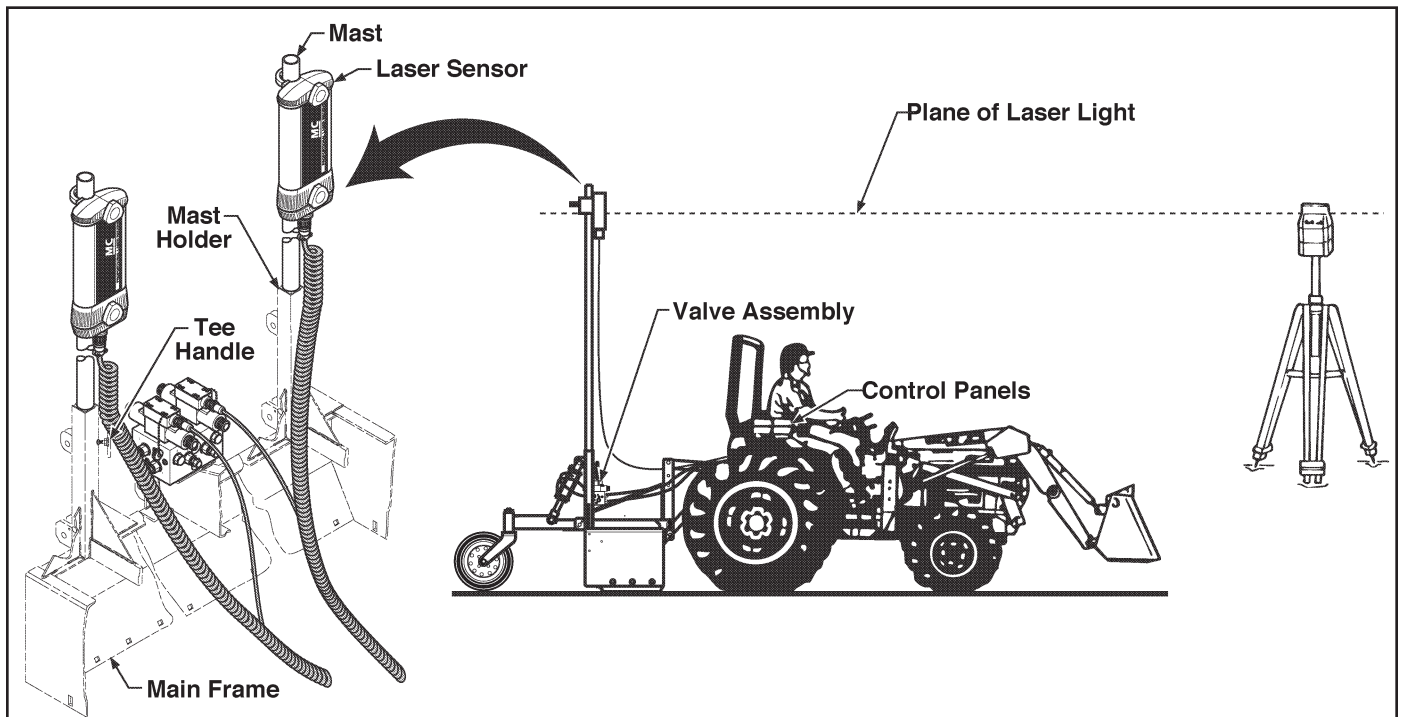

Figure 3. Components of the Automatic Control System
6. Insert the mast poles into the holders on each side of the Laser Grading Box until they rest on the bottom of tube and tighten the tee handle to secure. Clamp one Laser Receiver near the top of each Mast so it is higher than any local obstructions including the tractor cab or fall protection devices. (Refer to Figure 3).